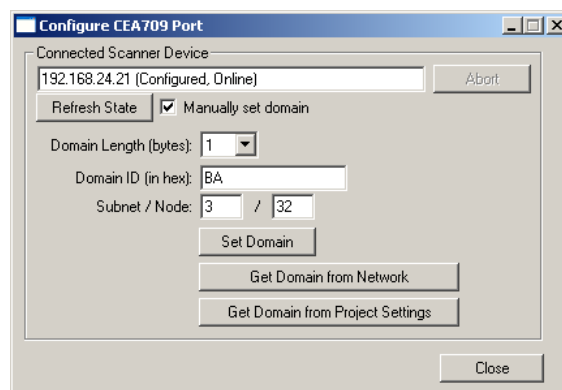

Figure 146: Configure CEA-709 port dialog.
4. If the device has not been installed with a network management tool (e.g. LNS-based tool), press the **Configure CEA709 Port** button. This opens the device install dialog as shown in Figure 146.